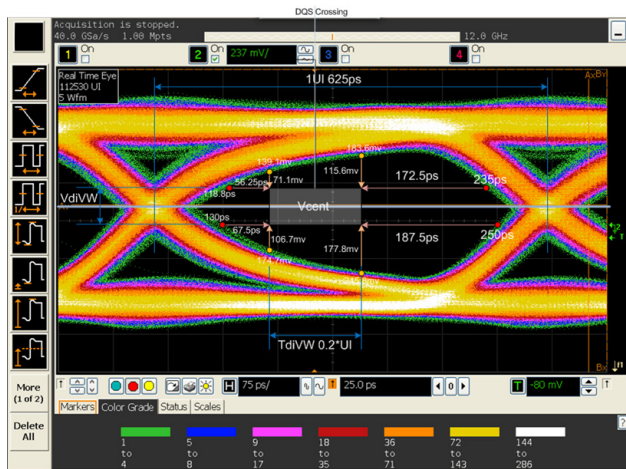
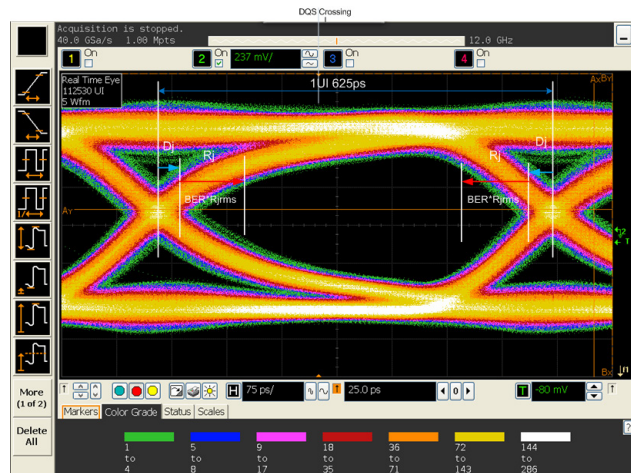

Figure1. Direct Measurement with 100,000 UI
Figure2. Dj and Rj impact on the data eye
When operating at a high data rate, the data valid window is very small. The noise in the system or crosstalk from adjacent electrical signals, or even electromagnetic interference could easily distort the signal integrity which could result in data sampling error. Real-time eye diagram provides eye height and eye width measurements for signal integrity checks and estimates the data valid window. However, simply measuring a data eye with real time eye diagram measurement does not give full insight into the data valid window and expectations of a bit failure rate. Figure 1 shows a write data eye with over 100,000 unit intervals (UI) measured. This initial measurement of over 100,000 UI would result in a measured TdiVW of 353.75ps (or a margin of 56.25ps to the defined mask) and a VdiVW of 377mv (or a margin of 71.1mv). Figure 2 shows how the (deterministic jitter (DJ)) and (random jitter (RJ)) lines show the impact of jitter over a long period of time and the actual data valid input window after 1 trillion UI (a 1e-12 bit error rate or BER). Deterministic jitter is generally bound and predictable and can be correlated to the data stream; such as inter symbol interference and duty cycle distortion. Random jitter is generally Gaussian and is unbounded. As with any Gaussian distribution, as a population increases, so does the peak-to-peak value of the distribution. Therefore, total jitter is DJ plus a BER multiplier of RJ. Note that the data valid input window is made on write data. You can see how important it is to make BER measurement calculations to form a statistical measurement of total jitter in order to understand the design's data valid window result and to properly understand at what rate you can expect an error within the design. Additionally, understanding the components and sources of jitter can enable designers to reduce jitter in their designs and ensure better data performance.
Figure 3 shows the same eye diagram from Figure 1 now with contour points at a BER of $1e-12$ (or 1 trillion data transitions). Directly, measuring 1 trillion data transitions-, would be extremely time consuming. By extrapolating different BERs, we can begin to understand the failure rate to the mask that is expected. At $1e-12$, the TdiVW measurement is 173ps (with a margin to the defined mask of only 5ps). The VdiVW measurement is 259mv (with a margin of 27mV to the defined mask). This is a significant difference to the initial measurement for TdiVW and VdiVW. At a BER of $1E-12$, there is little margin to the mask, but we can say that we can expect better than a $1e-12$ failure rate (or 1 in 1 trillion). Figure 4 shows the contour of $1e-15$ which fails the mask. We know that we can expect bit failures to this mask within 1 quadrillion data transitions.